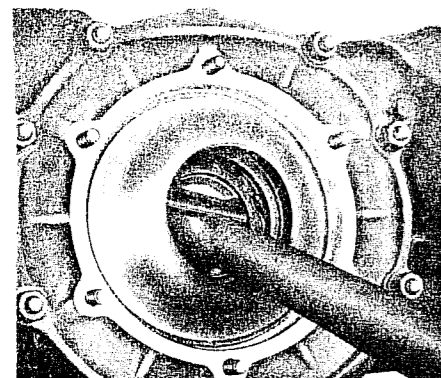

Fig. F.8. Location of the axle shaft circlip. - Swing axle.
7. A large circlip which secures the differential gear can be seen through the hole in the side of the transmission case (Fig. F. 8). Remove the circlip.